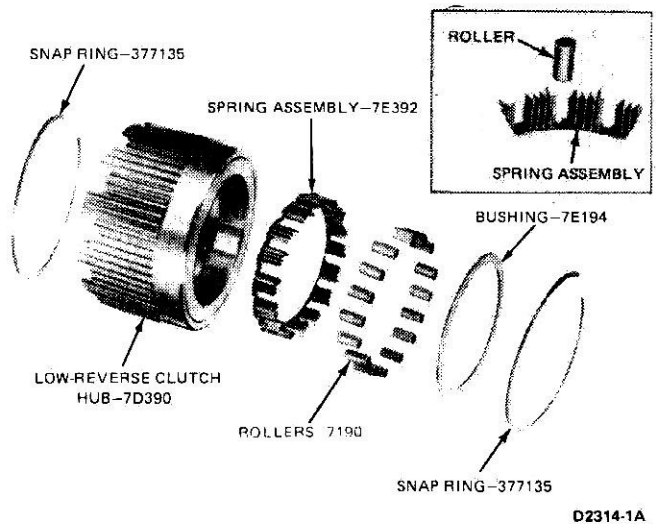

FIG. 53 One-Way Clutch Disassembled
1. Remove the snap ring and bushing from the rear of the low-reverse clutch hub (Fig. 53).
4. Install a roller into each of the spring assembly compartments (Fig. 53).
6. Install the remaining snap ring at the rear of the low-reverse clutch hub to secure the assembly (Fig. 53).